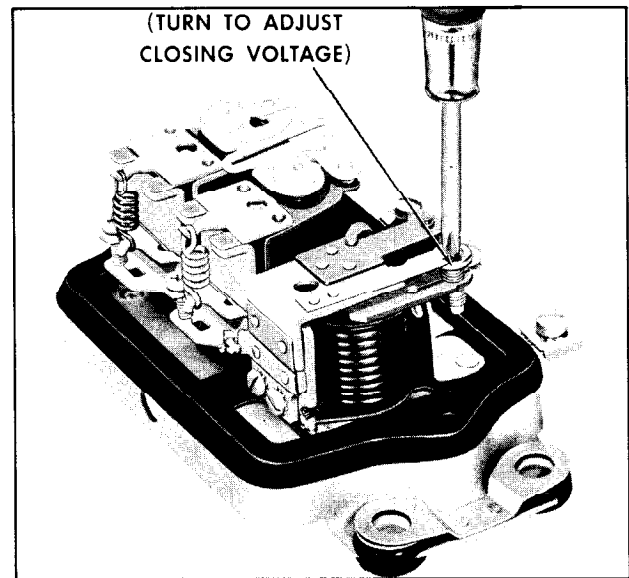

Fig. 13-15 Adjusting Cutout Relay Closing Voltage (35 Ampere Regulator Shown)
4. If voltage is not within specifications, adjust the closing voltage to 12.8 volts by turning the adjusting screw clockwise to increase the setting or counterclockwise to decrease the setting. (Fig. 13-15)